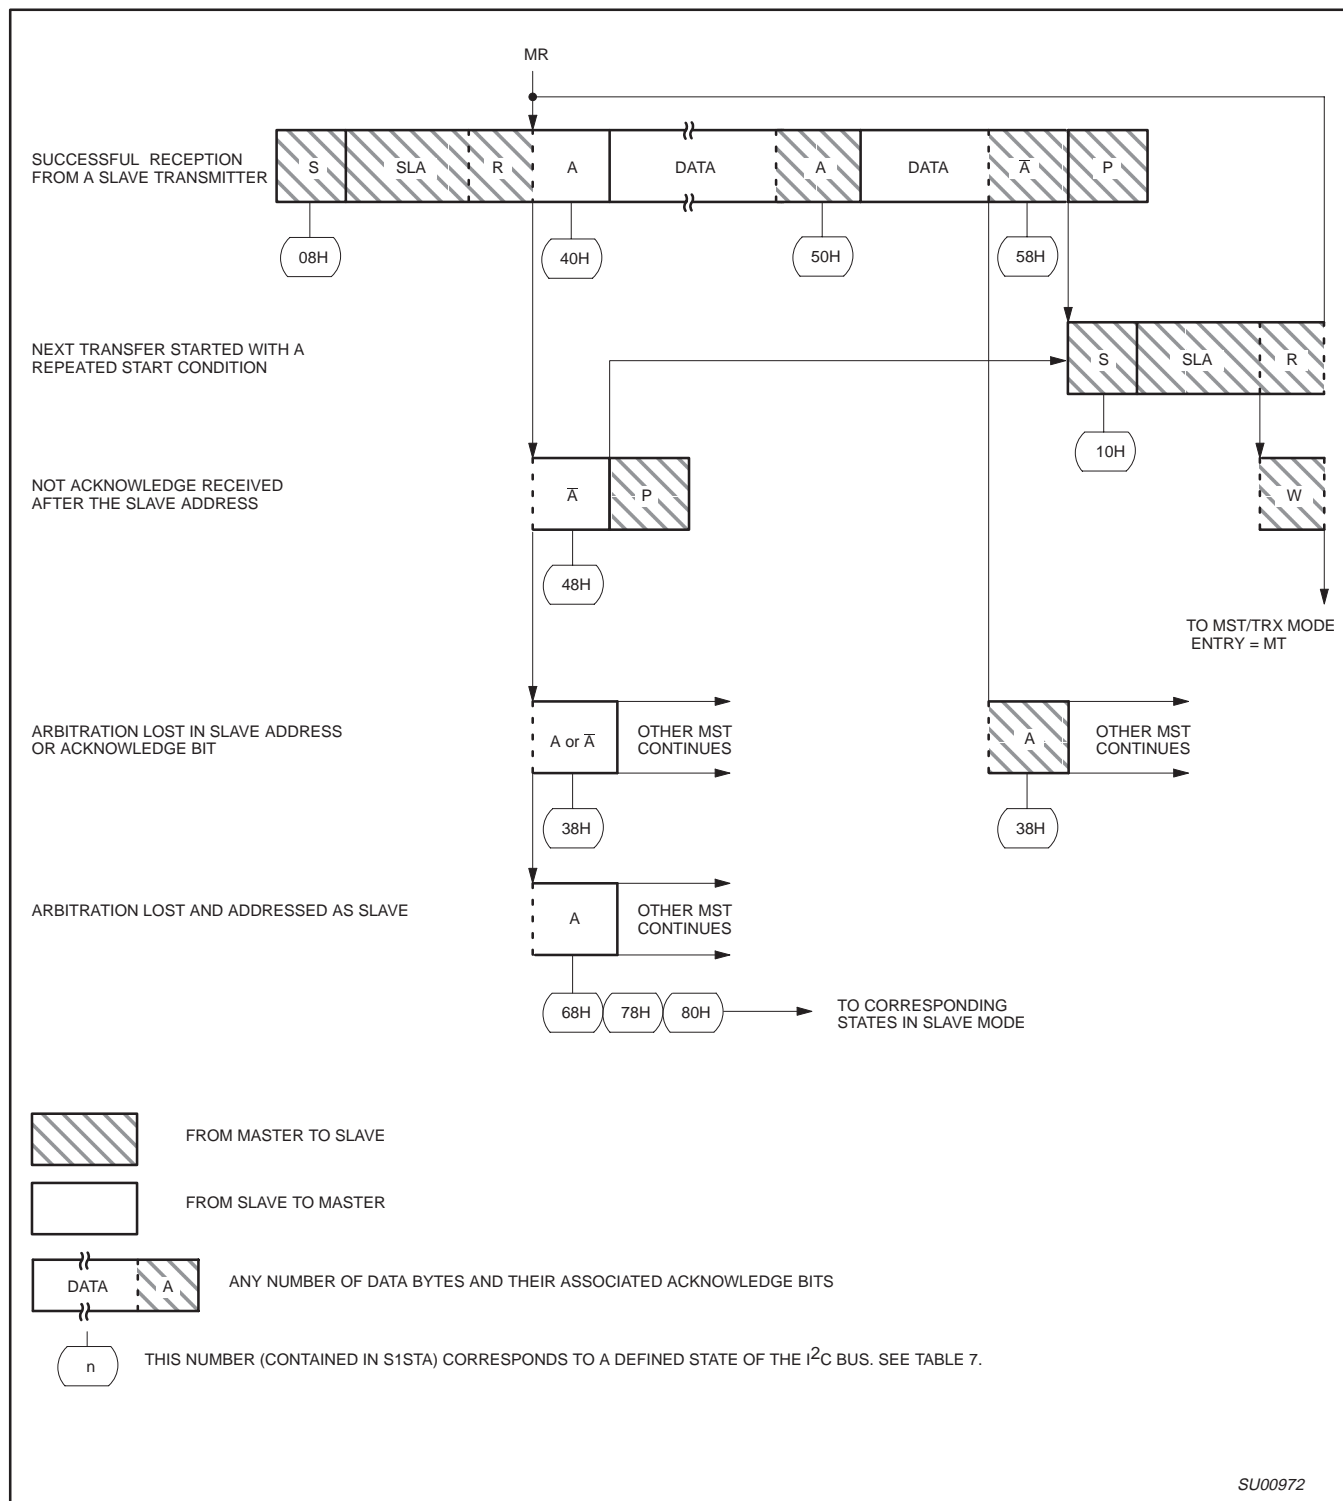

Figure 40. Format and States in the Master Receiver Mode
**Master Receiver Mode:** In the master receiver mode, a number of data bytes are received from a slave transmitter (see Figure 40). The transfer is initialized as in the master transmitter mode. When the start condition has been transmitted, the interrupt service routine must load S1DAT with the 7-bit slave address and the data direction bit (SLA+R). The SI bit in S1CON must then be cleared before the serial transfer can continue.